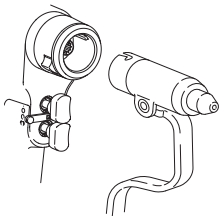

Figure 1 Attachment Installation
2. Position the attachment's J-notch while inserting the attachment with a gradual rotating motion until it "snaps" into place (see figure 1).